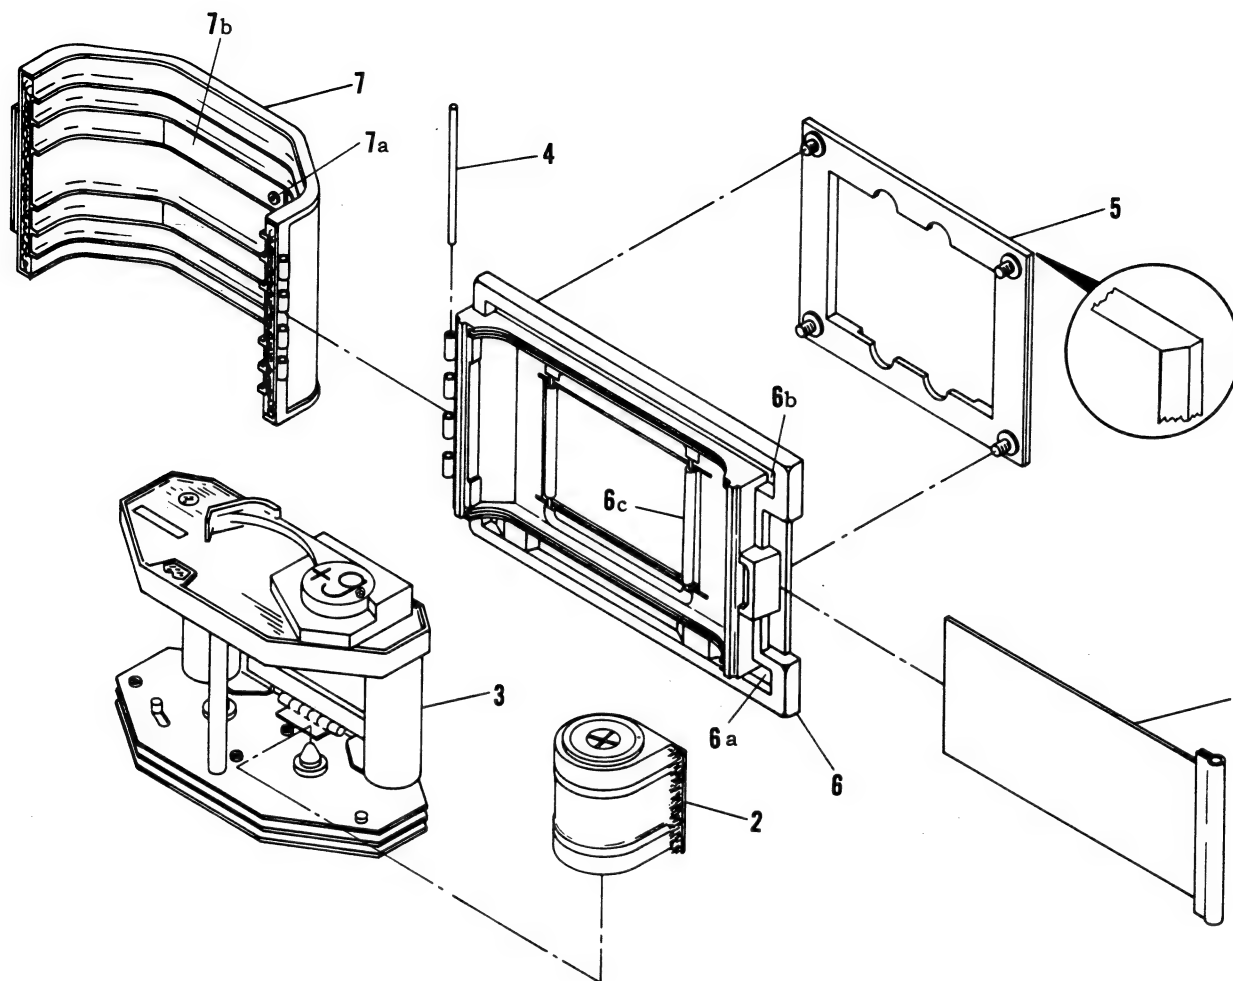

Figure 4. ROLL HOLDER COMPLETE
Refer to Figure 4 for disassembly of the Roll Holder Complete. Refer to Figure 5 for disassembly of the Carriage Complete.
20. When replacing dial (7) do not attempt to turn it clockwise. Dial should be turned only in counterclockwise direction and must rotate with 2 to 5 inch-ounces of torque.
a. Adjust pawl (28) to engage dial at full depth of tooth and to align dial with pointer in cover within one graduation width (cover does not have to be tightened down for alignment check). Dial must not index beyond position 56 (not marked on dial).
b. If necessary, bend indexing pin of gear assembly (18) for positive indexing overtravel.
21. Position cover assembly (4) for best alignment with back edge and both ends of carriage before tightening screws (5 & 6).
22. Turn hub (21) counterclockwise approximately 180°, against spring pressure, until long edges of pads are parallel to rear edge of cover.
F. REASSEMBLY - COVER AND FRAME (Figure 4)
Position bevel end of adapter assembly as shown in Figure 4.
Covering to frame assembly	(6a & 6b, Fig. 4) to (6, Fig. 4)